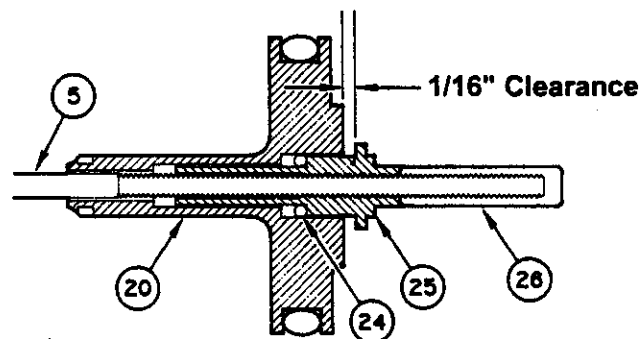

Fig. 1
A 1/16" gap between the Air Piston Ass'y (20) and Needle Body (25) should be maintained (see Fig. 1). This will create needle motion that will allow adequate air flow before the fluid starts flowing. The gap may be adjusted by partially removing the Material Needle (5), screwing it either in or out of the Needle Body (25) and locking it back into the gun while being sure to check the clearance between the Air Valve Piston (20) and the Needle Body (25).